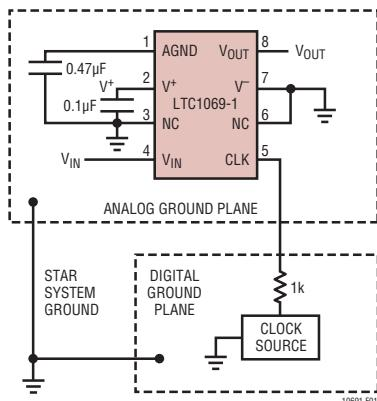

Figure 1. Connections for Single Supply Operation
For single supply operation Pin 1 should be bypassed to the analog ground plane with a $0.47\mu\text{F}$ or larger capacitor. An internal resistive divider biases Pin 1 to 1/2 the total power supply. Pin 1 should be buffered if used to bias other ICs. Figure 1 shows the connections for single supply operation.
CLK (Pin 5): Clock Input Pin. Any TTL or CMOS clock source with a square wave output and 50% duty cycle ($\pm 10\%$) is an adequate clock source for the device. The power supply for the clock source should not necessarily be the filter's power supply. The analog ground of the filter should be connected to clock's ground at a single point only. Table 1 shows the clock's low and high level threshold value for a dual or a single supply operation. A pulse generator can be used as a clock source provided the high level ON time is greater than $0.42\mu\text{s}$ ($V_S = \pm 5\text{V}$). Sine waves less than 100kHz are not recommended for clock signal because excessive slow clock rise or fall times generate internal clock jitter. The maximum clock rise or fall is $1\mu\text{s}$. The clock signal should be routed from the right side of the IC package to avoid coupling into any input or output analog signal path. A 1k resistor between the clock source and the clock input pin (5) will slow down the rise and fall times of the clock to further reduce charge coupling, Figure 1.